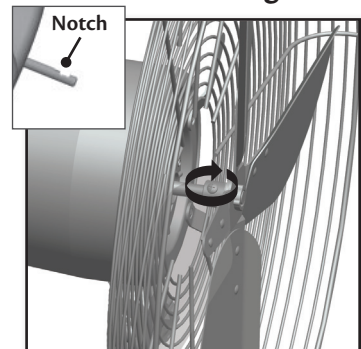

Figure 15
5. Tighten the Screw on the Blade assembly to secure it to the Motor. Make sure that the end of the screw is positioned within the notch on the shaft. Figure 15.